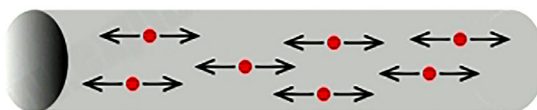

Fig 2.22(b)
The bigger appliances in your home including ceiling fans and electric ovens use a different kind of electricity called alternating current (AC). In AC circuits the electrons constantly reverse direction Fig 2.22(b)—about 50–60 times every second. AC is used for long-distance power transmission because high voltages result in lower currents, which reduce energy loss due to heat.